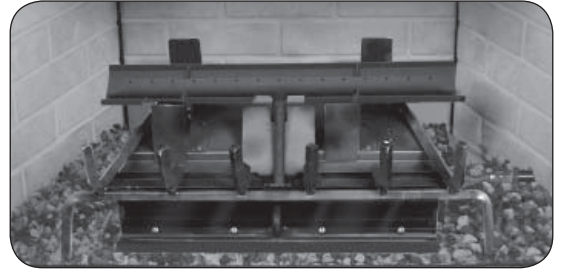

Fig. 11-1 Place lava media
1. Spread the supplied lava granules on the floor of the fireplace, around the front and sides of the burner system (see Fig. 11-1).